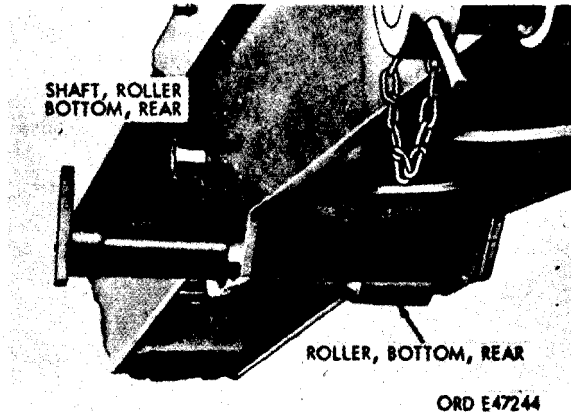

Figure 456. Rear bottom roller and shaft partially removed
- (d) Remove cap screw and lockwasher from rear bottom roller shaft. Remove shaft and rear bottom roller (fig. 456) from shipper.